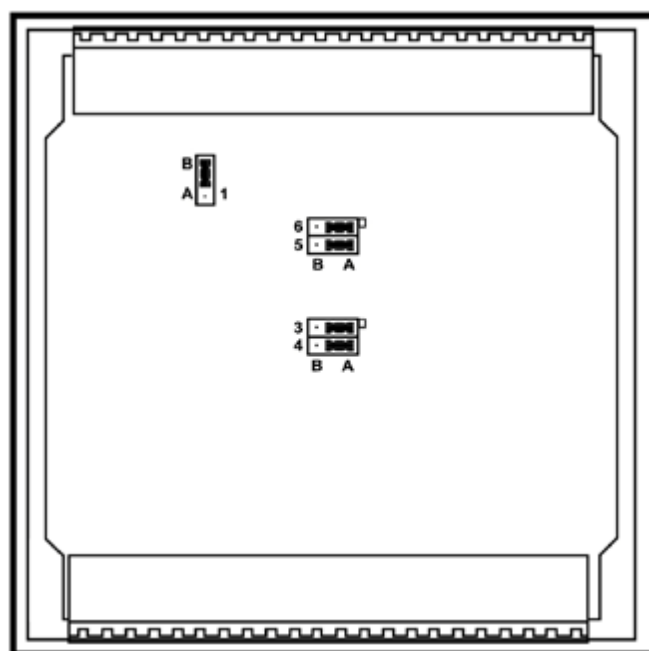

Figure B-3. Input Jumpers
- Table B-2 and Figure B-3 indicates how to set a specific jumper to change input functionality.
- To open the controller and access the jumpers, see Figures B-3 and B-4.
3. Locate and then change the jumpers as required, see Figure B-3.